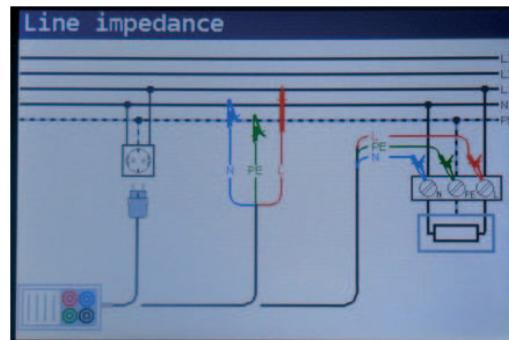

Figure 4.27: Line impedance measurement
- Step 2** Connect the appropriate test leads to the instrument and follow the connection diagram shown in figure 4.27 to perform phase-neutral or phase- phase line impedance measurement.